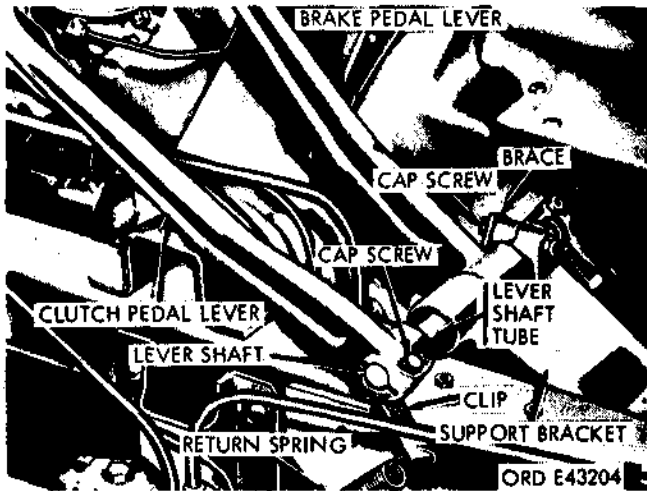

Figure 54.44. Brake and clutch pedal assembly mounted to vehicle.
(19) Disconnect clutch control linkage and return springs (brake and clutch) as follows (figure 54.44).